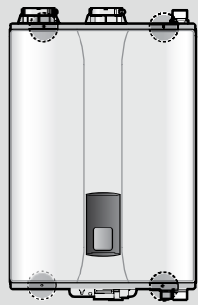

Figure 1. Screw Location
2. Using a Phillips screwdriver, remove 4 screws (2 from the top and 2 from the bottom) of the front cover assembly to gain access to the internal components. See Figure 1 for illustration of the front cover on the unit.